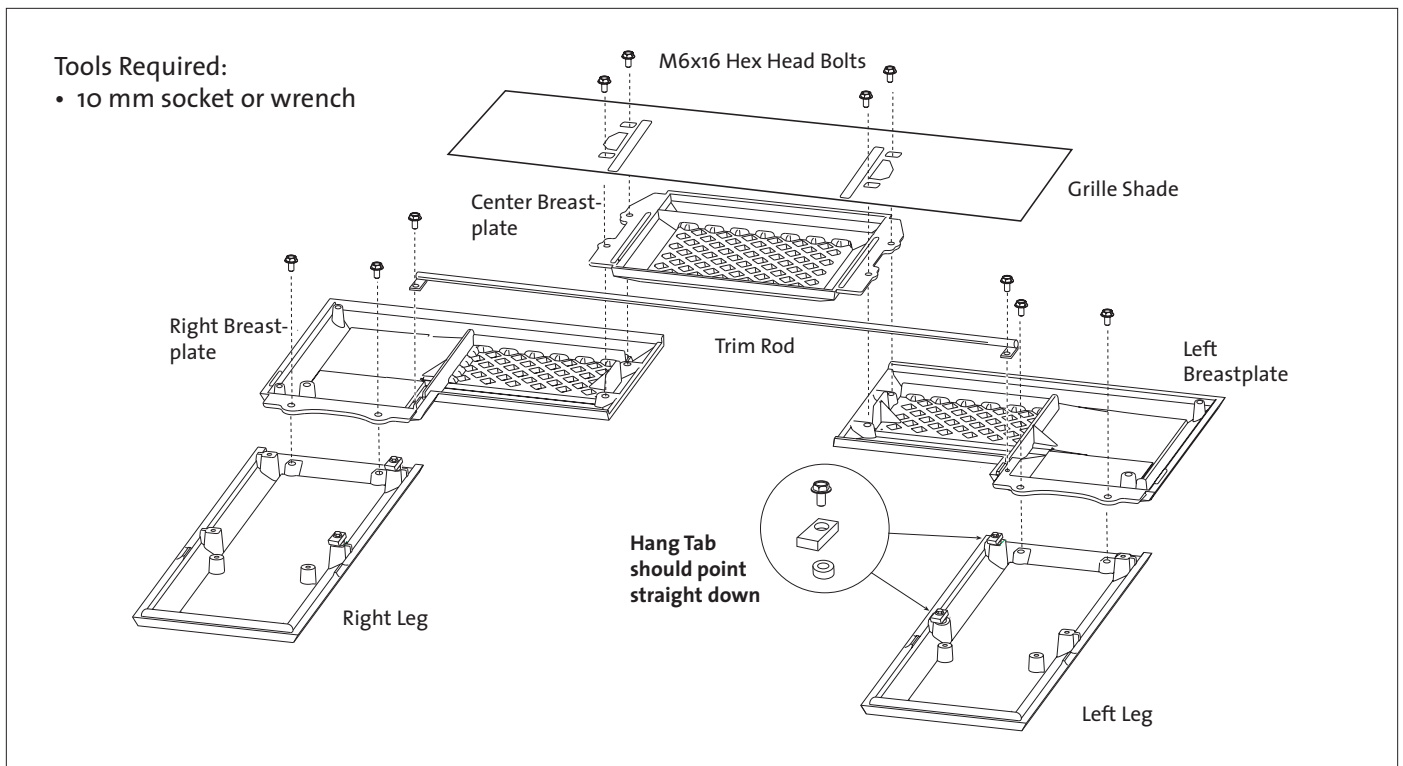

Figure 12a. Tamarack Lattice Surround Panel Assembly
1. Layout the parts. Place the castings face down on a protective surface such as carpeting, blankets or a sheet of cardboard. See fig. 12a, above.
3. Attach the Leg plates. The Legs must be oriented with the Hang Tabs on the inside edges as shown in fig. 12a. Use the four remaining M6 x 16 hex head flange bolts to attach the Legs to the Breastplates.